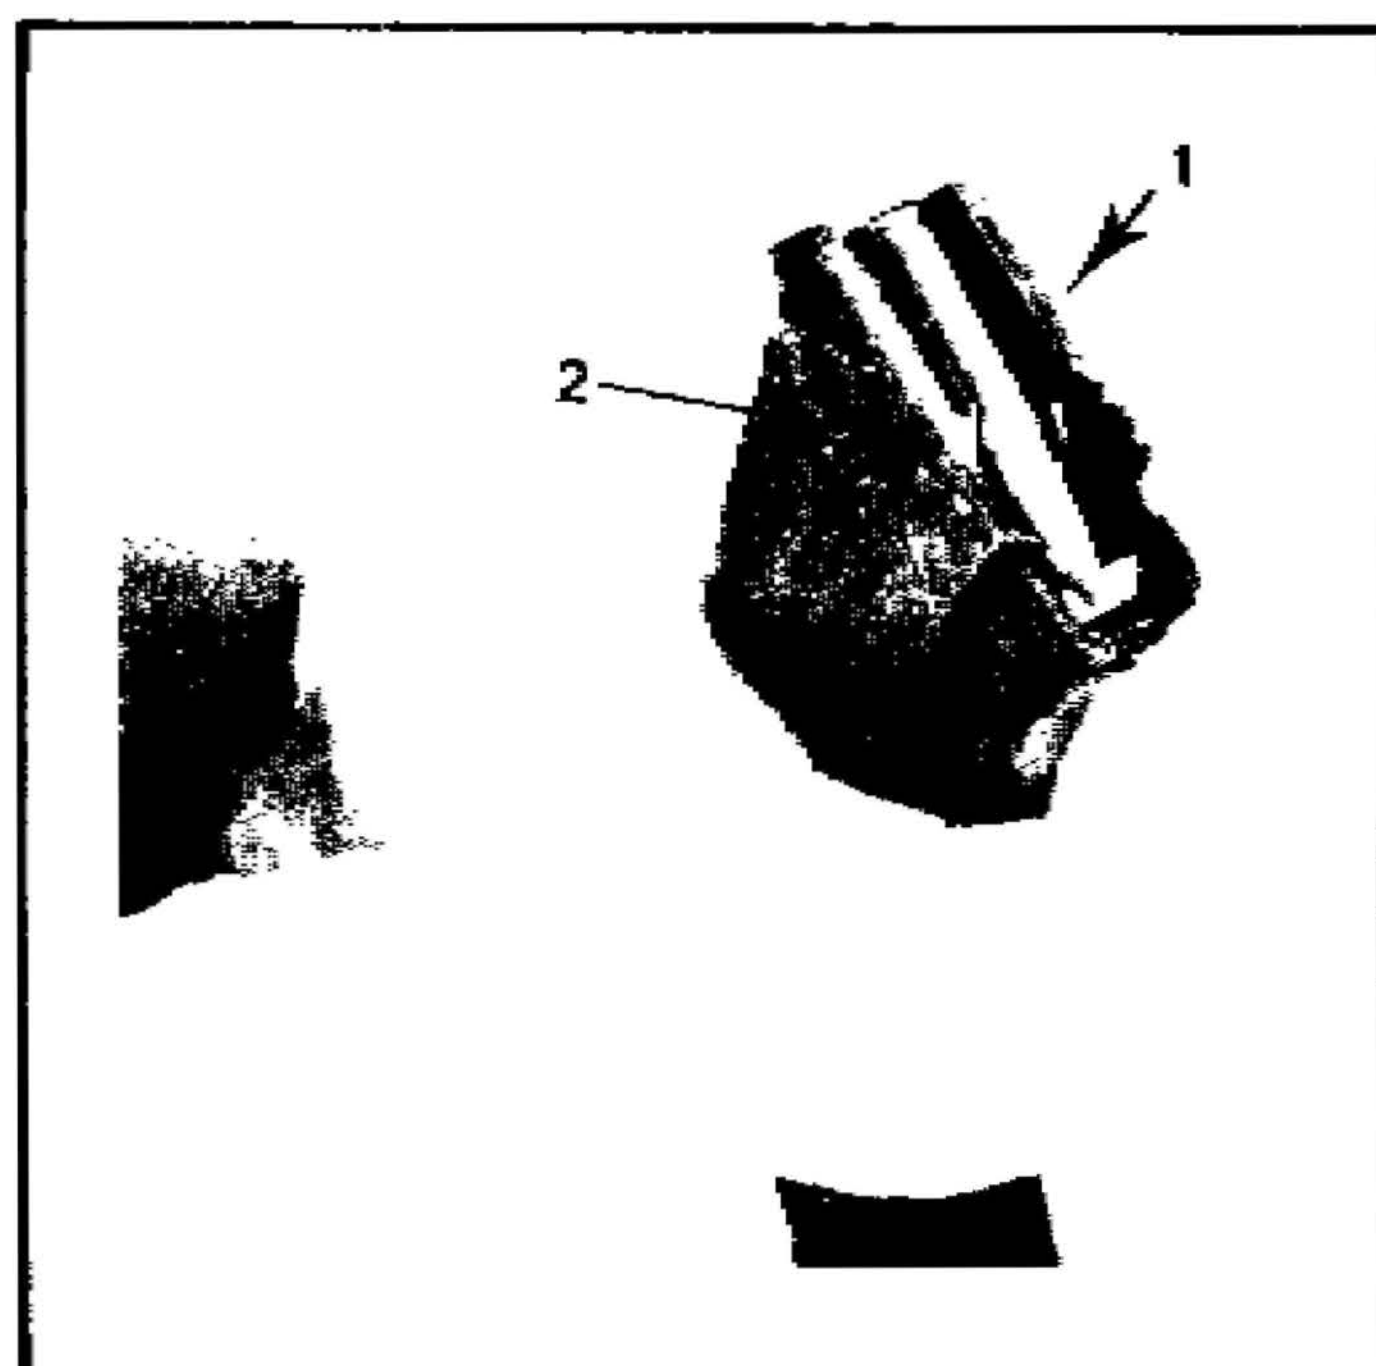

FIGURE 8. LOADING MAGAZINE
**Loading the Magazine:** Place a round between the feed lips (fig 8). Press it down until it locks inside the magazine. Repeat until magazine is full (30 rds).